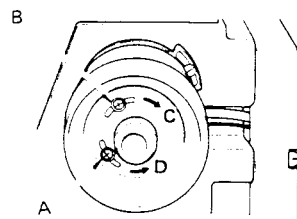

Fig. 48
- Loosen screw **A**, Fig. 48.
- Loosen screw **B**, Fig. 48.